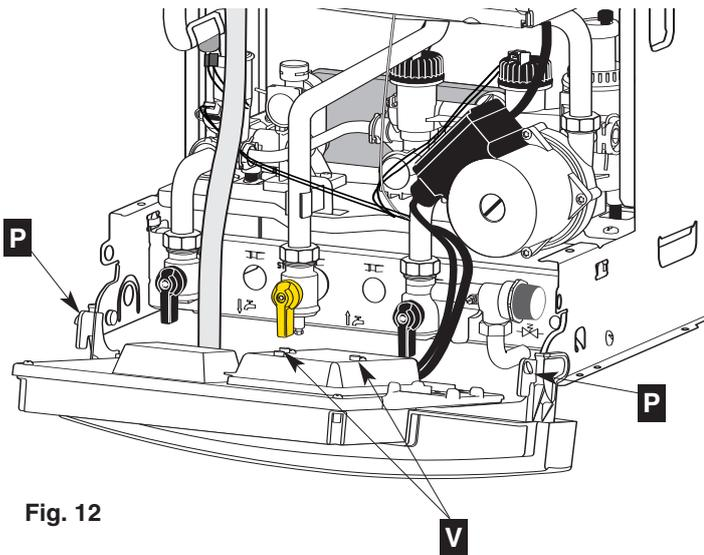

Fig. 12
- Push in the tabs "P" (fig. 12) on either side of the boiler and pivot the electrical box forward to gain access to the valve connections
Hinge down the electrical box to gain access to the electrical connections. Push in the tabs **P** (Fig 12) on either side of the boiler and pivot the box forward.